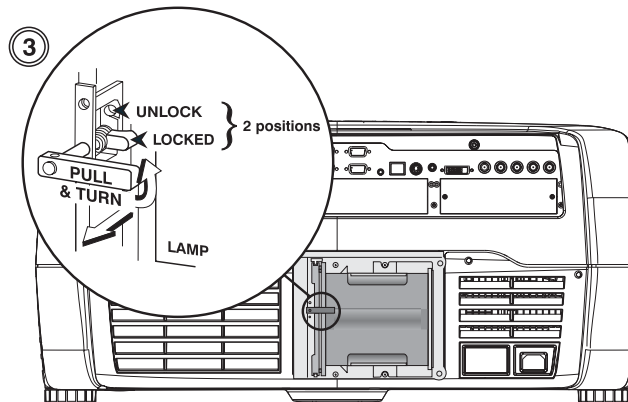

**Figure 4.3.**
3. Pull (out) and turn the lamp lock lever, which is located to the left of the lamp module, a quarter turn counter clockwise to the “unlock” position. (Figure 4.3.)